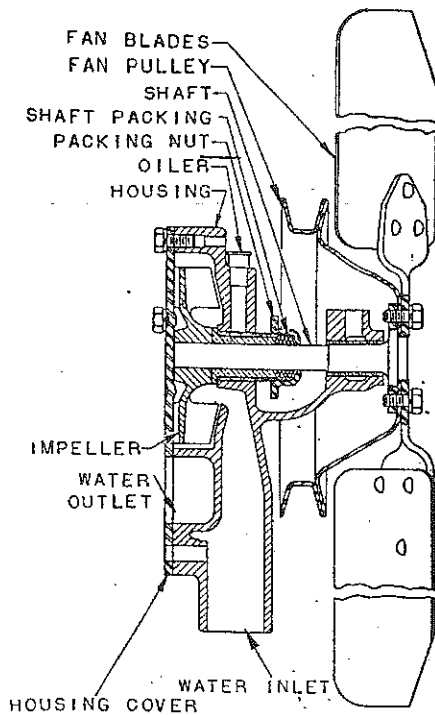

Fig. 28 Water pump on 213 engine
**213 ENGINE**—Fig. 28. If packing only is required, remove the pump and take off the fan. Disconnect the pump cover and press off the impeller. Install new packing, coating the bearing surface of both packing and shaft with engine oil. Tighten the packing nut a normal amount, rotate the shaft and retighten the nut. Run the engine until hot to allow the packing to seat properly, then make a final tightening of the nut.